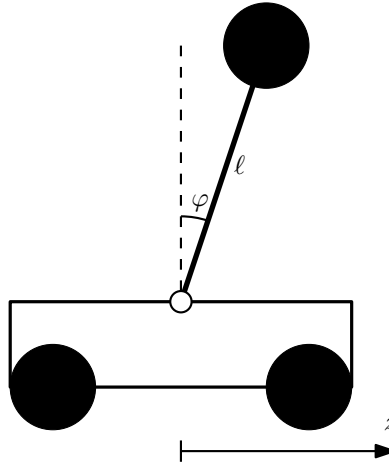

Figure 1 Inverted pendulum.
2. An inverted pendulum on a cart according to Figure 1 is described by the differential equation